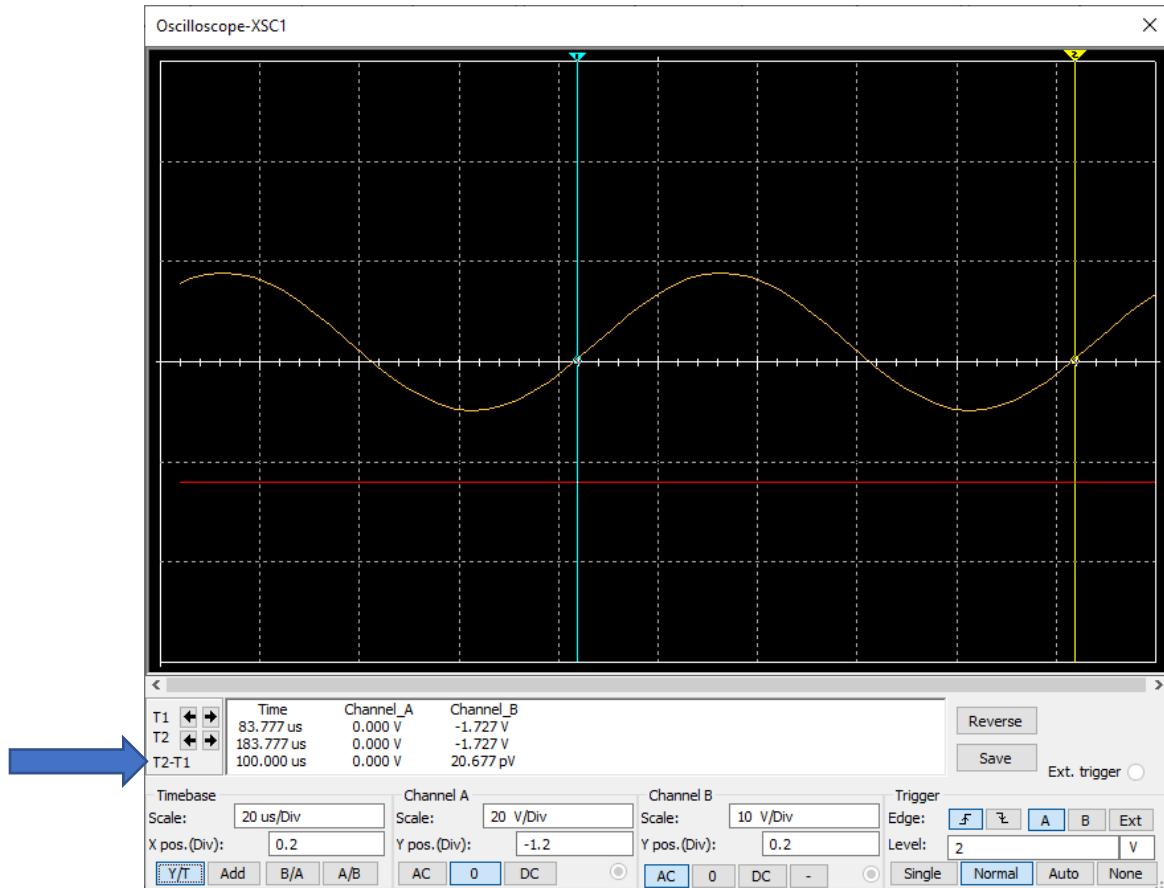

Figure 2-7: Measuring the period of the wave.
4. Next, we need the *Period* of the wave. That just means how long does it take to go 1 complete cycle? In Figure 2-7, I moved the blue cursor to the start of a cycle where the yellow trace crosses the X axis and moved the yellow cursor to the point where it crosses again (360°). The T2-T1 value is 100µs this time. Now we can compute the phase shift angle in degrees.